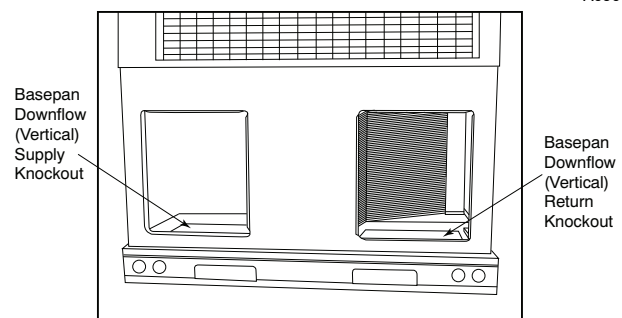

Fig. 11 - Supply and Return Duct Opening
The flue assembly is secured and shipped in the return air duct. Remove duct cover to locate the assembly (See Fig. 11).
2. Remove flue hood from shipping location (inside the return section of the blower compartment—see Fig. 11). Remove the return duct cover to locate the flue hood. Place flue
2. Remove horizontal (metal) duct covers to access vertical (downflow) discharge duct knockouts in unit basepan. (See Fig. 11.)